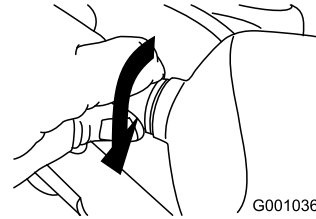

Figure 66
5. Turn the base of the bulb clockwise until it is snug (Figure 66).